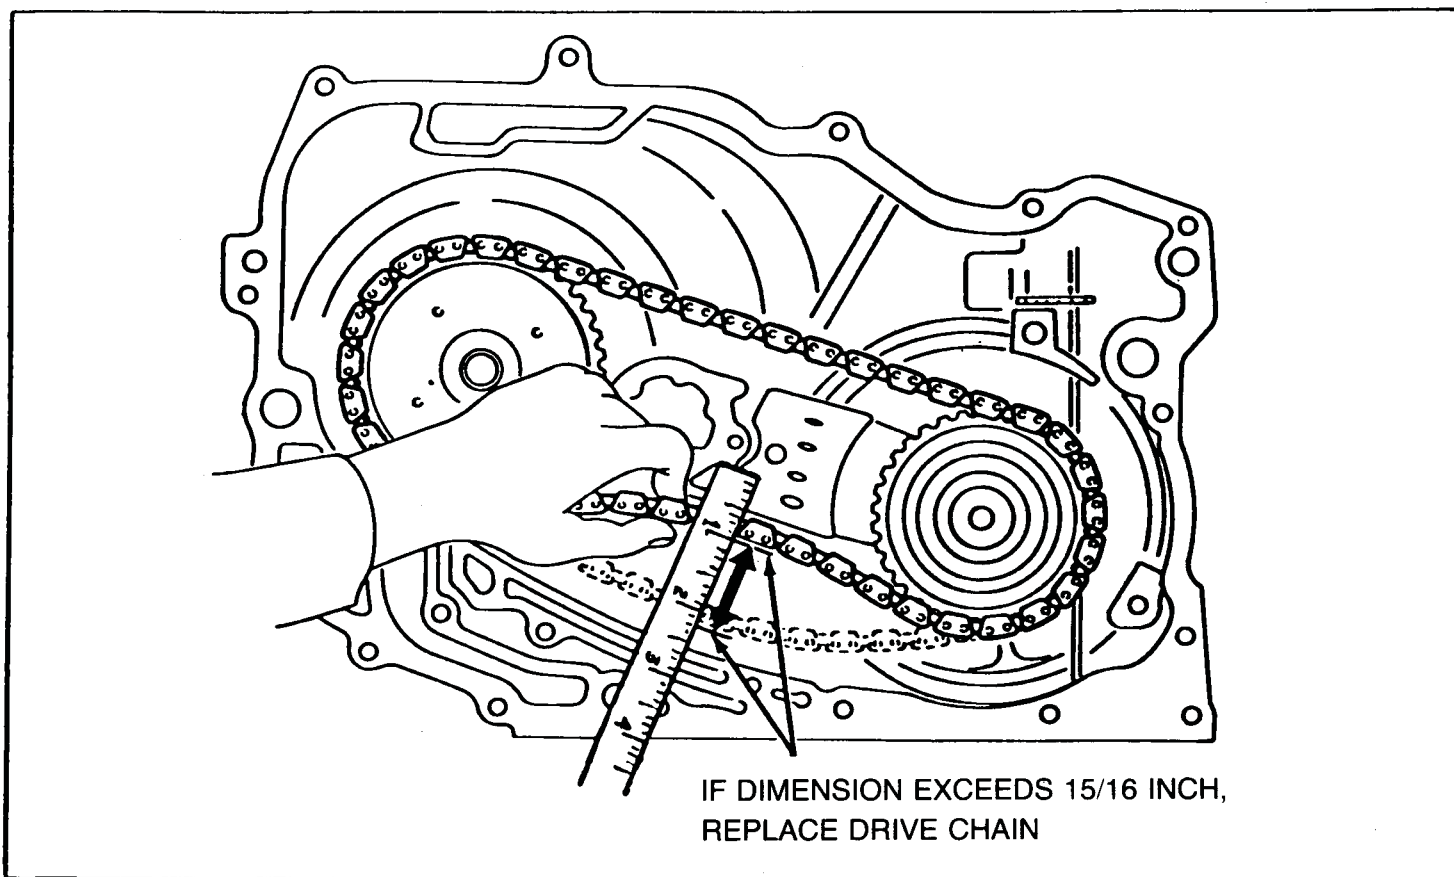

Figure 49
- 1) Midway between the sprockets and at right angles to the chain, push the slack of the chain up until finger tight (Figure 49).
- 2) Lay a ruler on the face of the case and line up the inch mark with the outside edge of the drive chain (Figure 49).
- 3) Push down in the same manner until the slack is finger tight, while holding the ruler down on the case face in the same position that you started (Figure 49). If this dimension exceeds $15/16$ inch, replace the drive chain.